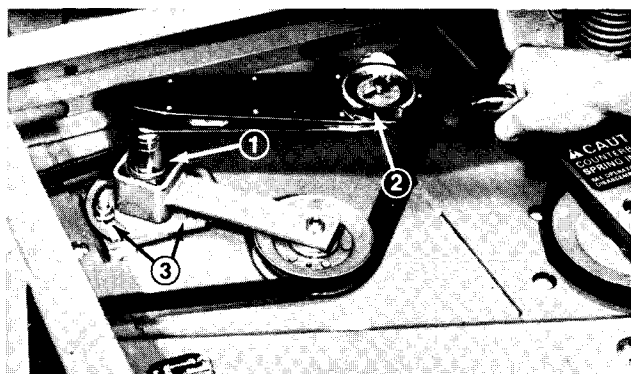

Figure 17
3. Loosen the two nuts securing the idler plate in place (Fig. 17). Using a socket and torque wrench, tighten the idler adjusting nut until the proper torque value is achieved.
4. Hold the torque against the belt and tighten the two nuts so that the idler plate is held securely in that position (Fig. 17). Release the idler adjusting nut and install the belt cover with the cap screws and lock washers.